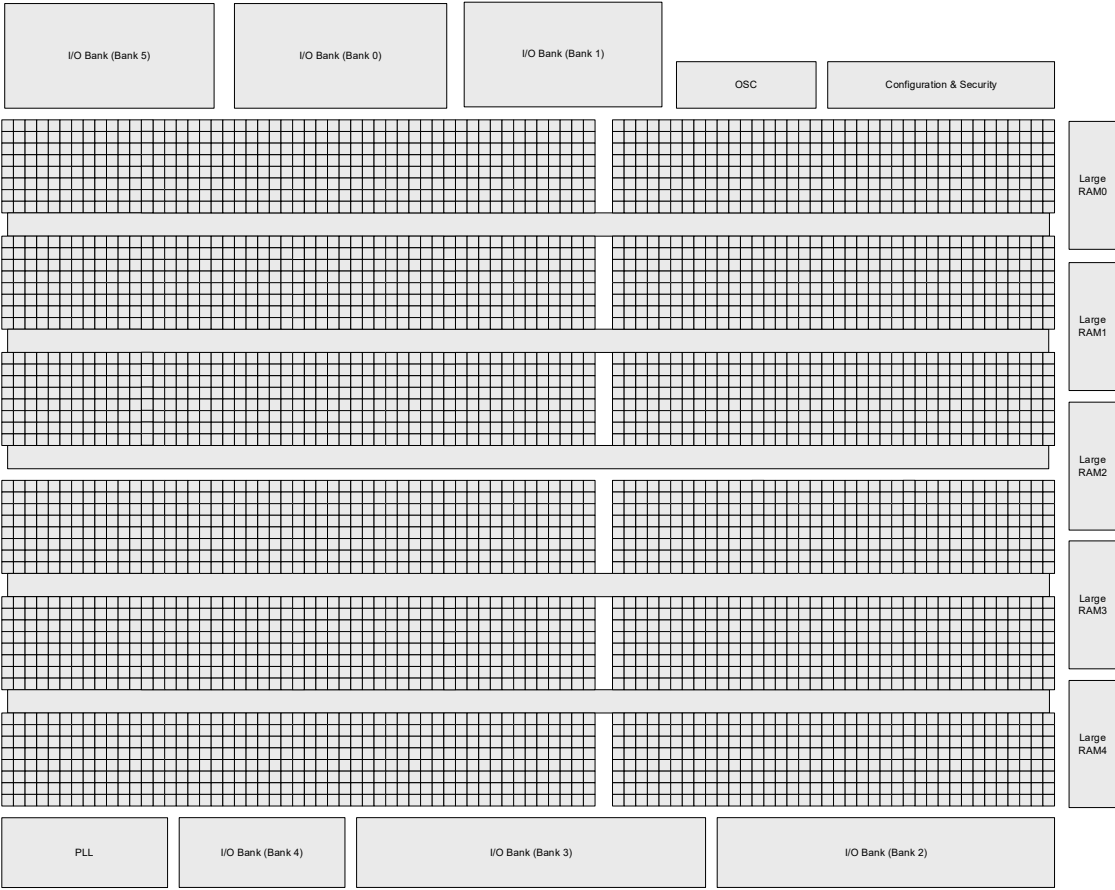
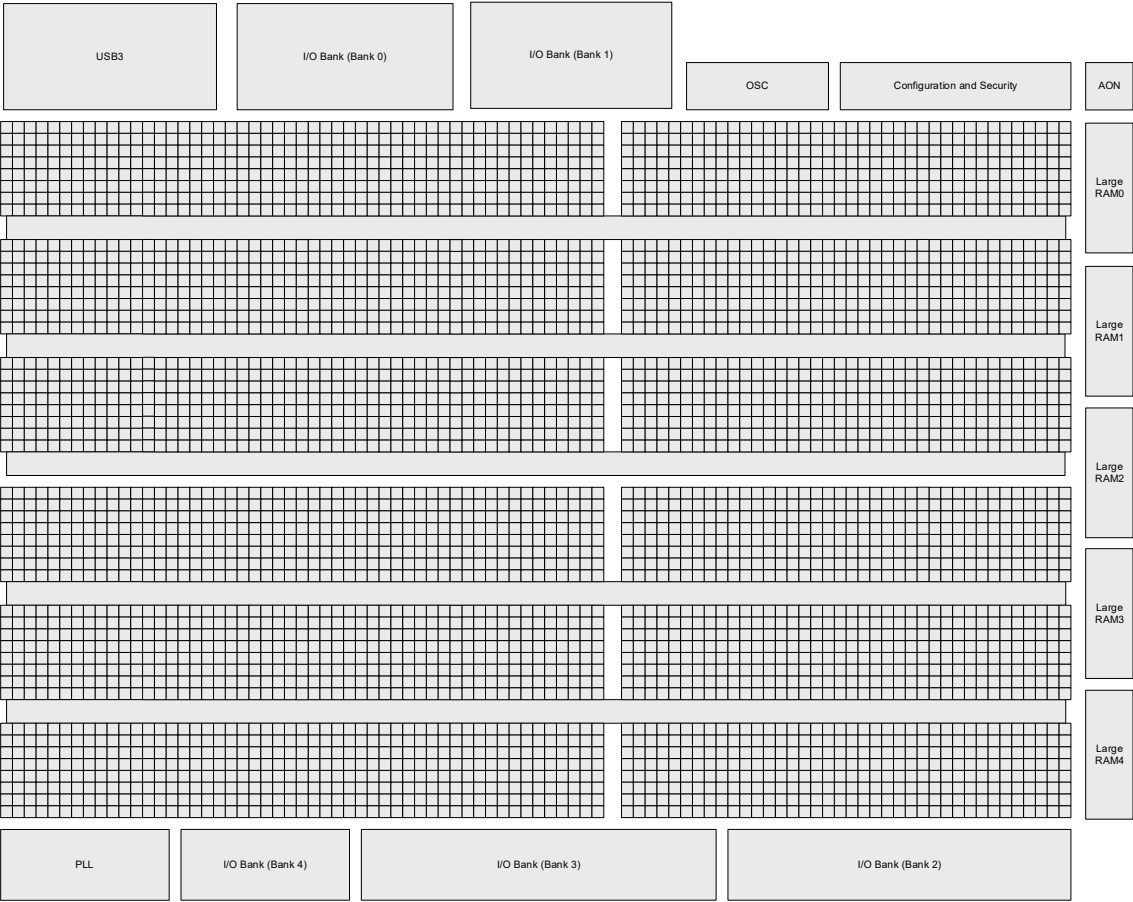

Figure 2.1. LIFCL-33 Simplified Block Diagram
Figure 2.2. LIFCL-33U Simplified Block Diagram
Each LIFCL-33/33U device contains an array of logic blocks surrounded by Programmable I/O Cells (PIC). Interspersed between the rows of logic blocks are rows of sysMEM Embedded Block RAM (EBR) and rows of sysDSP Digital Signal Processing blocks, as shown in Figure 2.1 and Figure 2.2. The sysMEM EBR blocks are large, dedicated 18 kb fast memory blocks and have FIFO support. Each sysMEM block can be configured to a single, pseudo dual or true dual port memory in a variety of depths and widths as RAM or ROM. Each DSP block supports a variety of multiplier and adder configurations with one 108-bit or two 54-bit accumulators supported, which are the building blocks for complex signal processing capabilities. Each PIC block encompasses two PIO (PIO pairs) with their respective sysI/O buffers. The sysI/O buffers of the LIFCL-33/33U devices are arranged in seven banks allowing the implementation of a wide variety of I/O standards. The Wide Range (WR) I/O banks that are located on the top side of the device provide flexible ranges of general purpose I/O configurations up to 3.3 V VCCIOs. The banks located on the bottom side of the device are dedicated to High Performance (HP) interfaces such as LVDS, MIPI supporting up to 1.8 V VCCIOs.